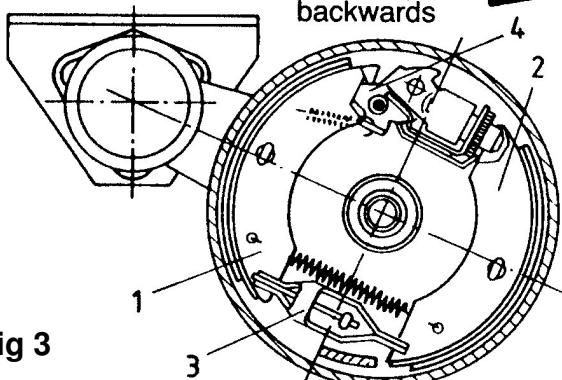

Fig 3
When reversing, the towing vehicle pushes in the draw shaft of the overrun device. The brake shoes (1,2) are pressed against the brake drum via brake linkage, Bowden cable and expander clutch (3). The brake drum turns backwards, taking the trailing shoe (1) with it. The transmission lever (4) swings back and allows the draw shaft to complete its full travel. The braking effect is virtually cancelled out and the wheels can revolve freely in reverse (Fig 3).